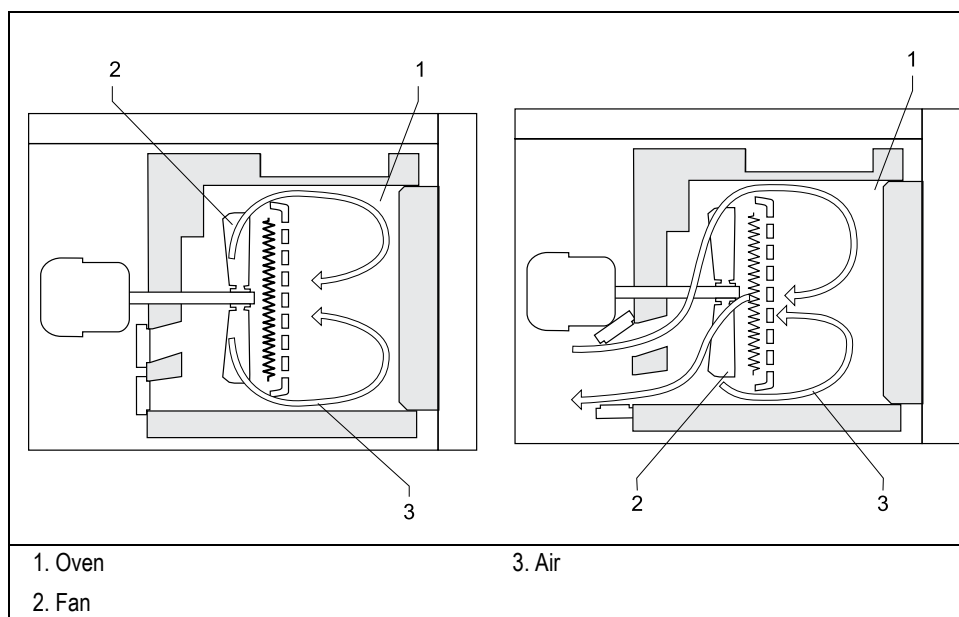

Figure 2.1-2. Oven Air Circulation
- A minimum operating temperature a few degrees above ambient obtained by two modulated cooling flaps controlled by the GC, shown in Figure 2.1-2